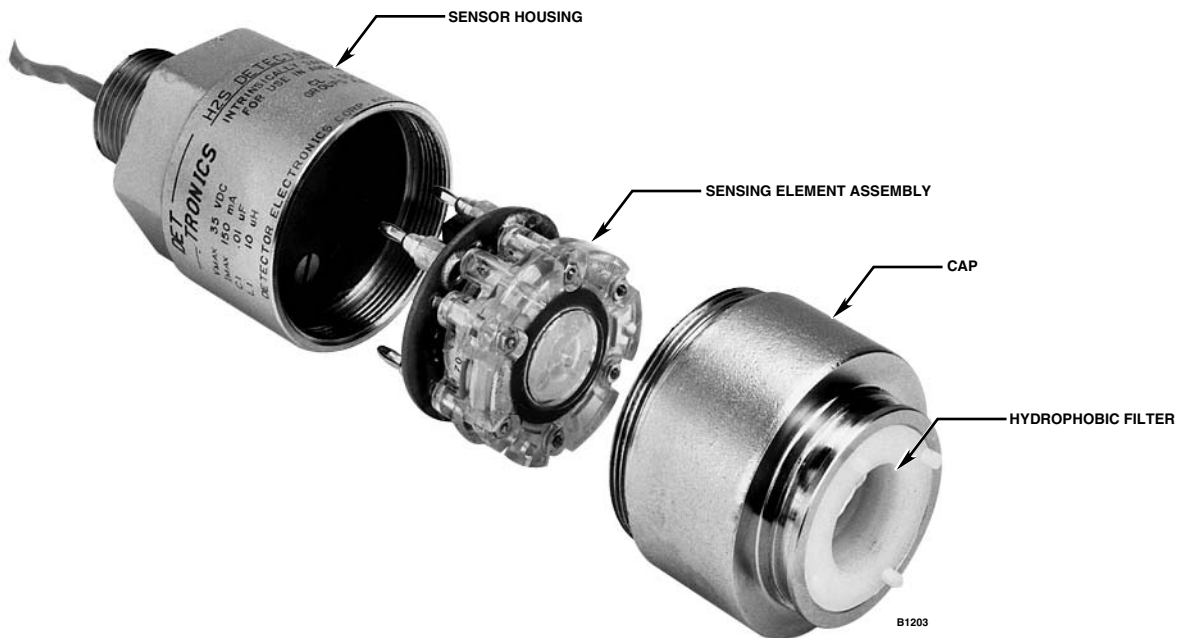

Figure 21 – Electrochemical Sensor Parts Identification
2. Remove the cap from the sensor base. See Figure 21. (There is no need to remove the sensor housing from the junction box for this operation.)